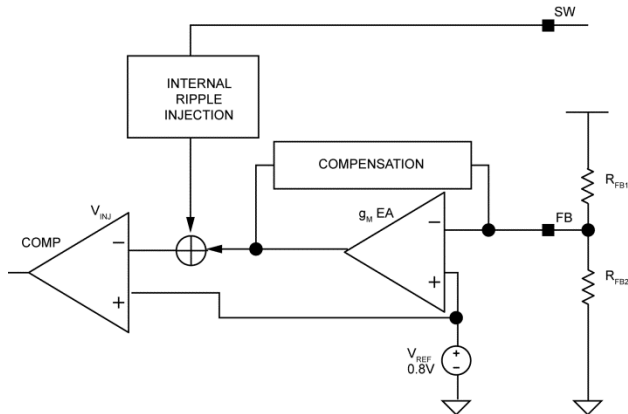

Figure 1. Output Voltage Sense via FB Pin
Figure 1, in association with Equation 1, shows the output voltage is sensed by the MIC45116 feedback pin (FB) via the voltage divider R_{FB1} and R_{FB2} and compared to a 0.8V reference voltage (V_{REF}) at the error comparator through a low-gain transconductance (g_m) amplifier. If the feedback voltage decreases, and the amplifier output falls below 0.8V, then the error comparator will trigger the control logic and generate an ON-time period. The ON-time period length is predetermined by the "Fixed t_{ON} Estimator" circuitry: